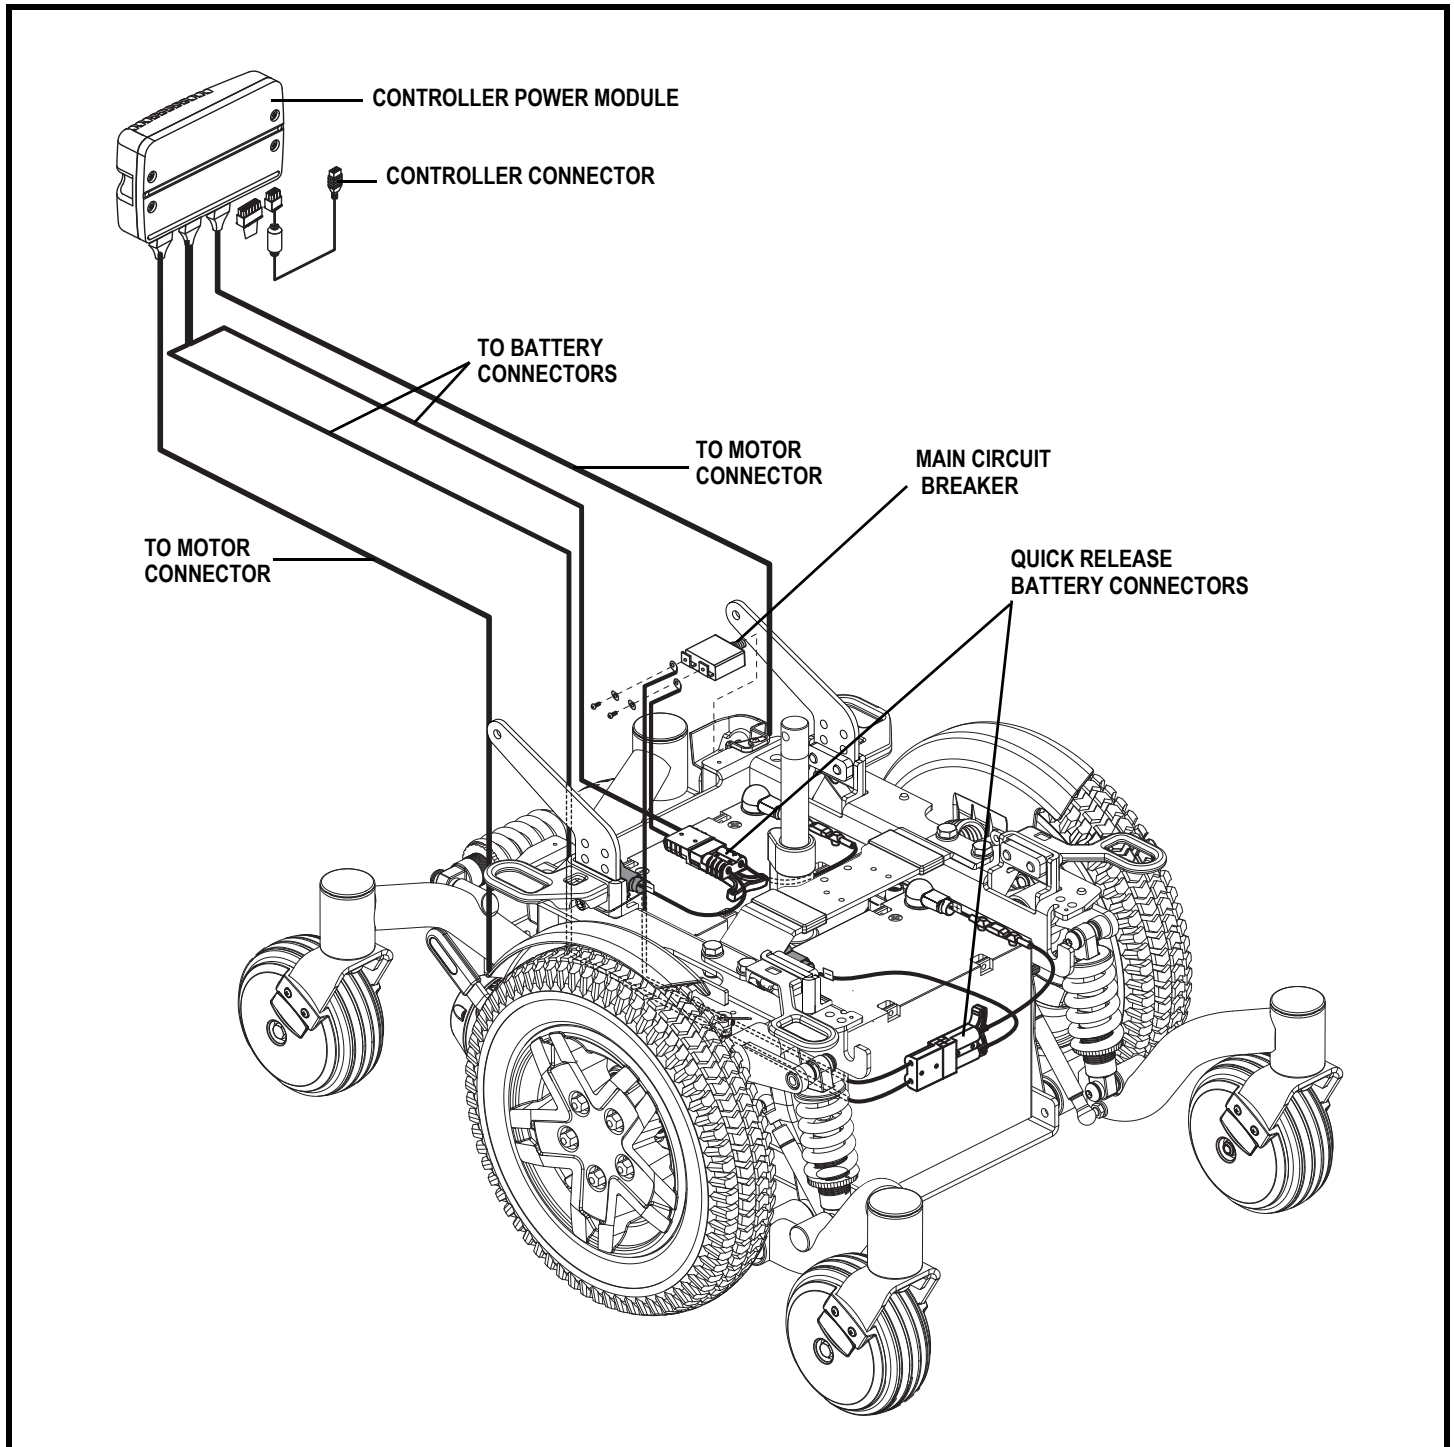

Figure 3. Quantum Q4 Electrical Components
The electrical components consist of the controller assembly, the batteries, and the motors. The batteries, motors, and controller power module (if equipped) are located on the power base assembly. The controller is located on the seat assembly. Connectivity between the controller and the motors, batteries, and the battery charger is provided by one or more wiring harnesses. **See figure 3.**
4. Plug the controller connector into the rear of the power base. See figure 3.